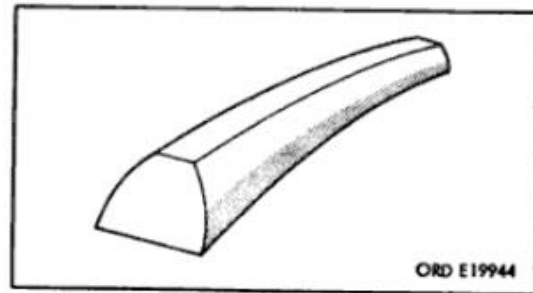

Figure 104. Low narrow tooth contact
(4) **Low narrow tooth contact.** Gear contact centered too low on tooth (fig. 104) will result in galling, grooving of teeth and noise. To correct condition add shims at (B) to move bevel pinion outward. Remove shims from (A) and add an equal thickness of shims at (E) to maintain correct bearing preload and also move bevel gear toward bevel pinion to establish 0.006 to 0.012-inch backlash.